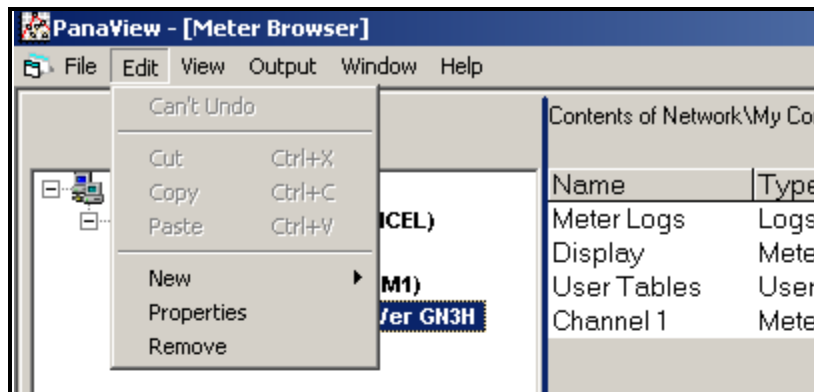

Figure 26: *Properties* Option in the *Edit* Menu
2. Open the *Edit* menu and select the *Properties* option, as shown in Figure 26.